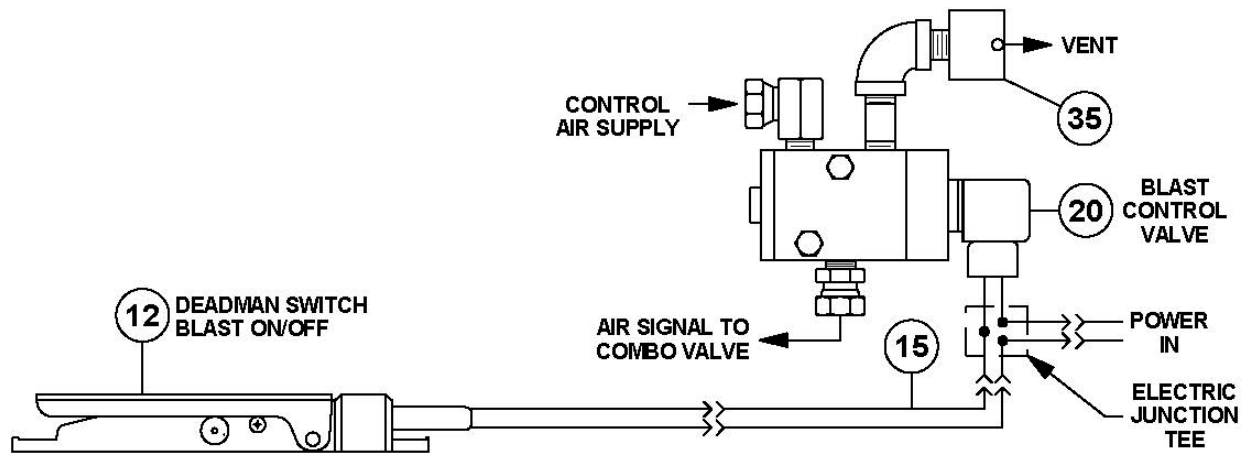

Figure 5.5 – Electric Blast Control System
5.8.2. Electric Deadman System (Optional): When the electric deadman lever is pressed down it closes the electric circuit and supplies electric current to the control valve (#20). The control valve opens and sends air signals to the Tera Valve™ (#14) and the automatic air valve (#9). When the deadman lever is released the electric current is cut off closing the control valve. The signal air vents from the breather (#35). See Figure 5.5 and the drawing in Section 9.1(c).